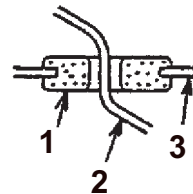

Fig. 1
- (g) Clamp all wires securely in locations away from moving parts or sharp corners on the chassis and body. Use grommets where routing wires through metal plates in order to prevent electrical short circuits due to installation damage or chafing. (Fig. 1)